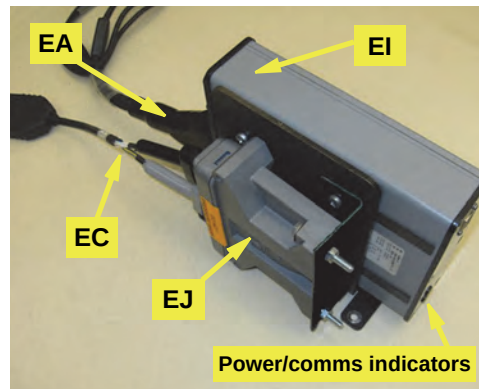

Figure 2a: Installed ECU and steering controller cables
- a. If not already attached, attach main cable **EA** to **EI** using an Allen wrench to secure the cable. The **EA** connector only connects with the **EI** socket that is in line with the power and communications indicators at the opposite end of the ECU - the lower socket in this installation (Figure 2a).
Attach steering controller cable **EC**'s two 12-pin plugs to the corresponding gray and black connectors on the steering controller **EJ** (Figure 2a).